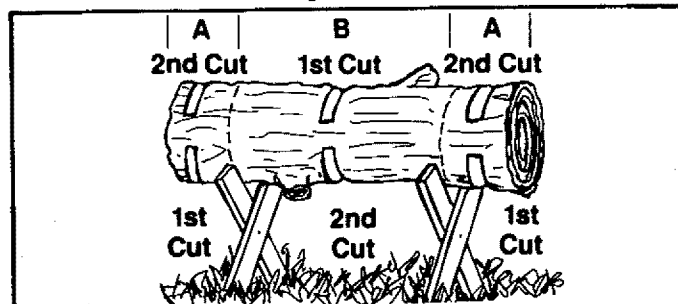

Figure 24
5. BUCKING — USING A STAND (Figure 24):